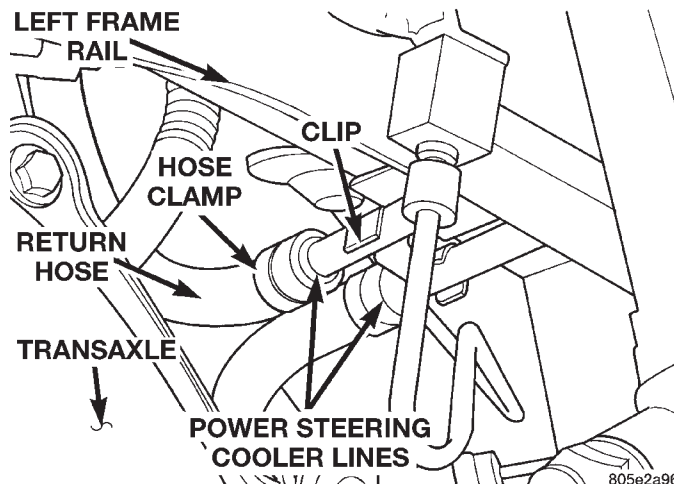

Fig. 17 Power Steering Hose Connections At Cooler Lines
(4) Lower the front suspension crossmember far enough to gain access to the high and low pressure ports on the steering gear.
(5) Disconnect power steering fluid return hose at power steering cooler line (Fig. 17). Drain power steering fluid from hose.
(1) Install power steering return hose on vehicle. Power steering return hose is installed from the bottom of the vehicles engine compartment using the reverse steps of removal..
(2) Using a lint free towel, wipe clean all open power steering hose ends, and the power steering gear port.
(3) Install a new O-ring on the power steering return hose to steering gear fitting.
(4) Lubricate O-ring using fresh clean power steering fluid.
(5) Install the power steering return hose, on the cooler lines (Fig. 17).